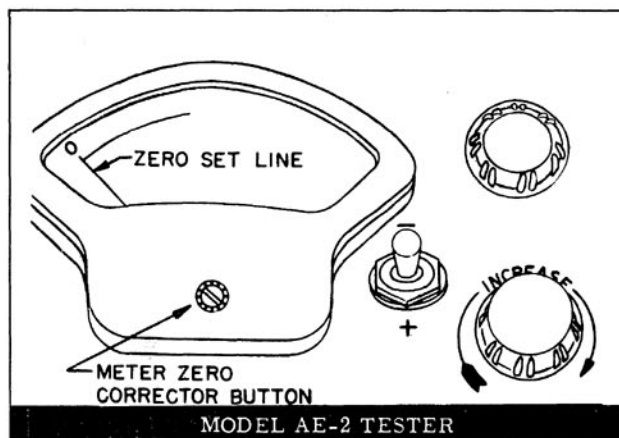

Fig. 12-57 Setting Zero Corrector
3. Turn Zero Corrector on face of tester until meter pointer is on zero set line. (Fig. 12-57)